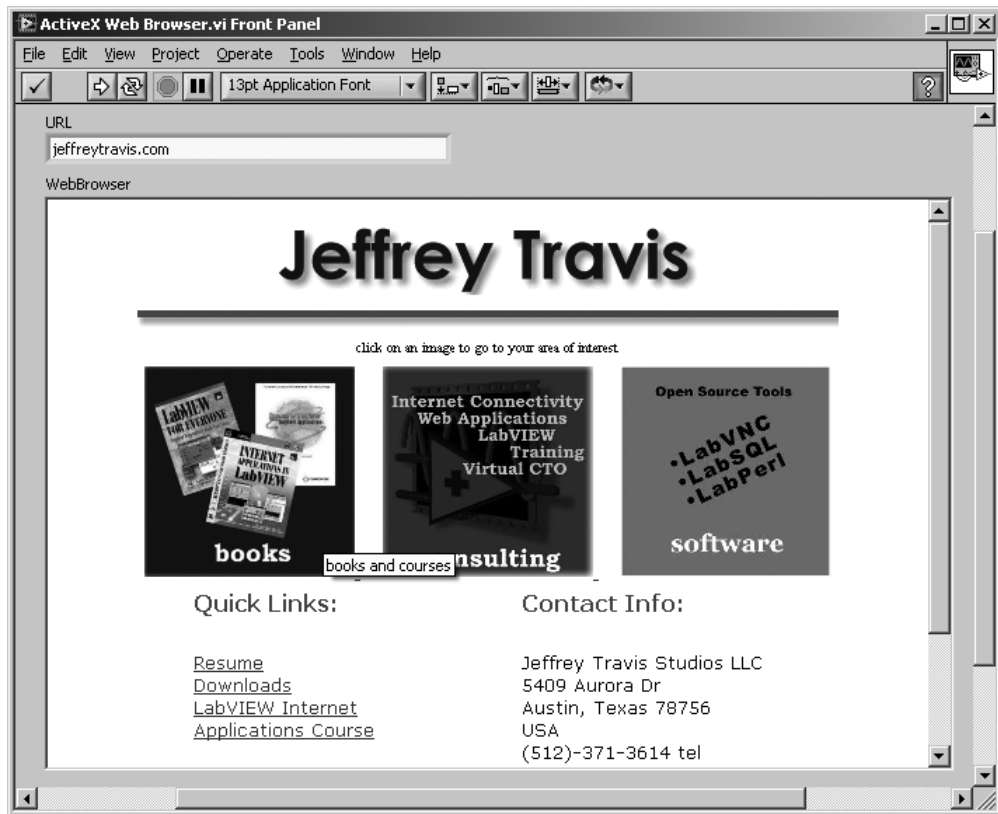

Figure 16.39
5. Return to the front panel, type in a URL, and run the VI. You will see the web page appear in the container. In Figure 16.39, we typed `http://jeffreytravis.com`.